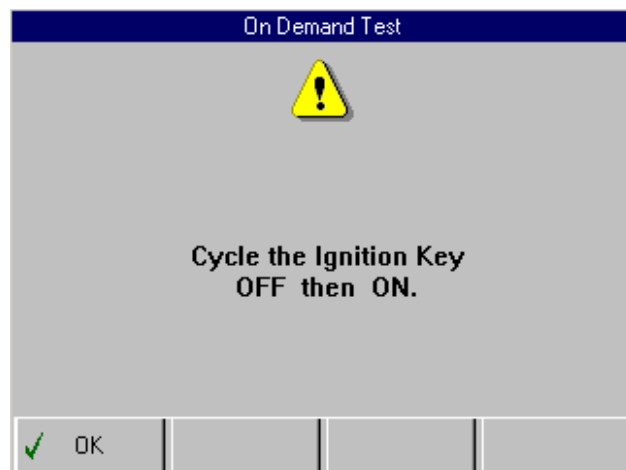

Figure 5.23: Self Diagnostic Test Instruction Screen
- 4 Wait for the test to start. While the test runs, a timer counts down the time remaining for the test. When the test is complete, an instruction screen (similar to figure 5.23) may appear.